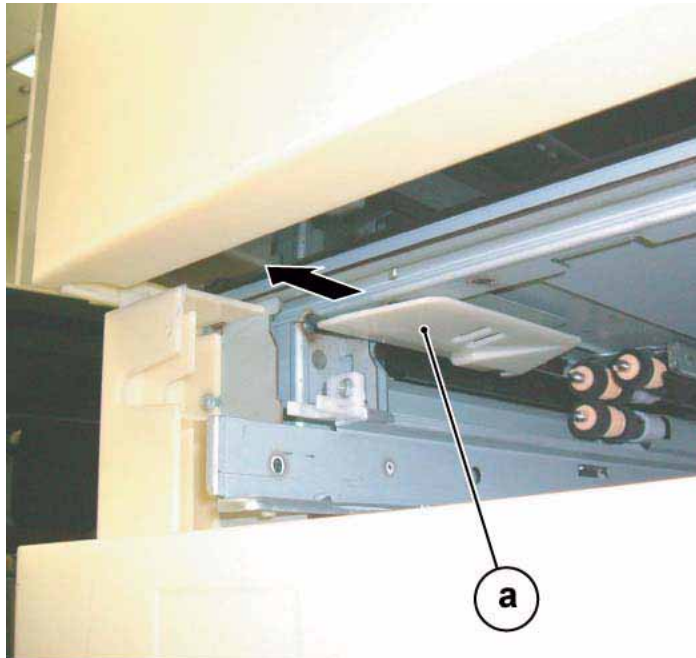

Figure 1 Moving the Chute
2. Move the Chute to the front. Figure 1